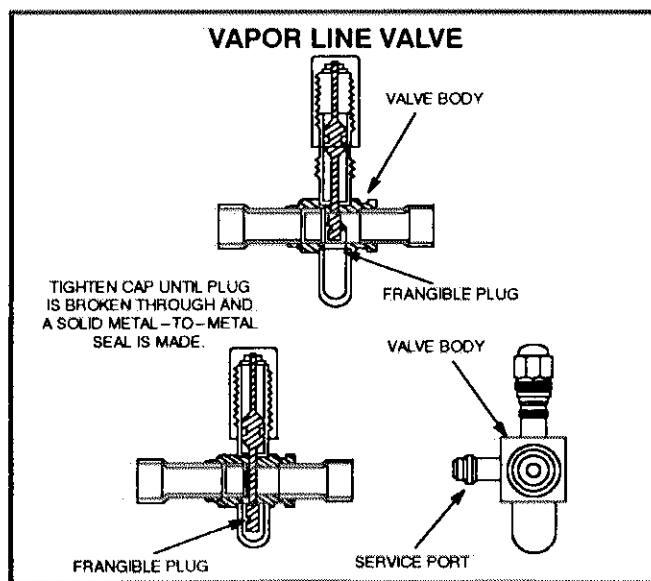

FIGURE 7
- 4— To open vapor valve, tighten the opening cap (longest) until it hits bottom [nut will be within 1/8 inch (3mm) or less of the body]. Tighten an additional 1/4 turn to make the metal to metal seal. Refer to figure 7.